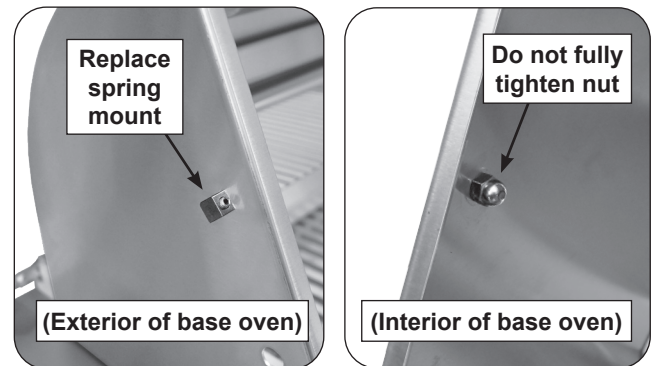

Fig. 2-2 Replace/install spring mount (on base oven)
If replacing a spring, remove the old spring mounting hardware, then install the new mounting hardware. Do not fully tighten. Leave slightly loosened to allow some play for the next step. See Fig. 2-2.
If installing a spring for first time, inspect the base oven side wall for a small knockout (to mount the spring). Remove the knockout and install the spring mount as shown in Fig. 2-2. Do not fully tighten. Leave slightly loosened to allow same play for the next step.
9. Fully tighten the spring mount(s) from inside the base oven. Reference Fig. 2-2.